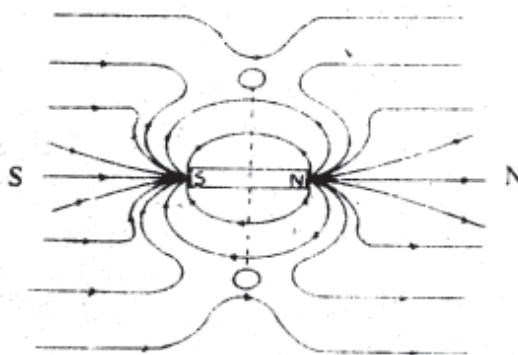

Fig. 28.7
- (iv) Draw such lines for different starting points and you will get large number of lines of force around the magnet. Their shape will be as shown in Fig. 28.7.
These lines will not cut each other. You will get two regions on the equatorial line shown by small circles in Fig. 28.7, where there will be no line of force. These are the neutral points. There are two neutral points, one on each side of the magnet. If you place the compass here in the circle with its centre at the neutral point, the needle will not point in any fixed direction. It can come to rest in any orientation. That shows that no force is acting on it. If magnet is properly placed, each of these points will be equi-distant from the two poles and lie exactly on equatorial line.